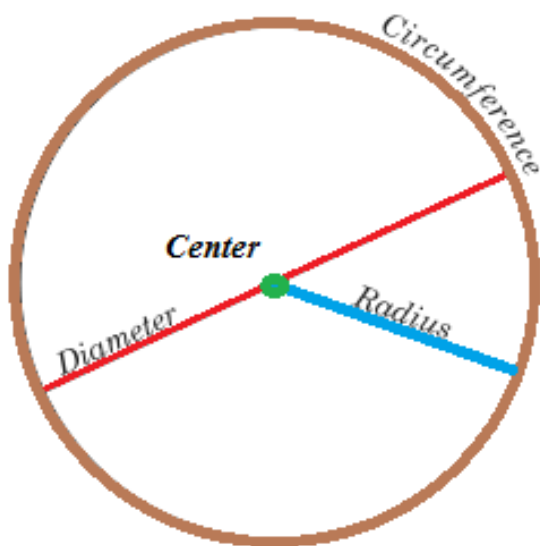

Figure 2. Parts of a circle
Let's talk about measuring width of a tree trunk. Since a tree's trunk is circular, foresters need to know a little about circles to do this. One can find out the width of a circle by measuring the length of a line that passes from one side of the circle through the center to the other side. We call this the circle's **diameter** (shown in Figure 2 below). However, it would be inaccurate, time-consuming and destructive to the tree to drill a hole through its trunk to take this measurement. Instead, foresters obtain an estimate of the tree's width by measuring the distance around the outside of the trunk referred to as its **circumference** (Fig.2).
In these equations, C = Circumference, $\pi \approx 3.14$, and D = Diameter (See Figure 2 for the visual relationship between the circumference of a tree trunk and its diameter).
You may be familiar with a more common representation of the equation, $C=2\pi R$, where R is the **radius** of the circle (Fig. 2). The radius is the distance from the exact center of the circle to any edge, or half of the diameter ($D=2R$).
- You should measure your objects to the nearest *millimeter* (mm). It is important to be as careful as possible so that you get an accurate measurement. Measure to the nearest millimeter and record that length in the column labeled “*Circumference (C)*” in the table.
- Revisit each item in your table that you measured the circumference of, and measure the distance across it from one edge to the other, being careful to position the tape over the center point of the *circular item*. This new distance represents the *diameter* (D) of the item (see Figure 2). Measure to the nearest millimeter, and record your number under the column labeled “*Diameter (D)*” in the row for that item.